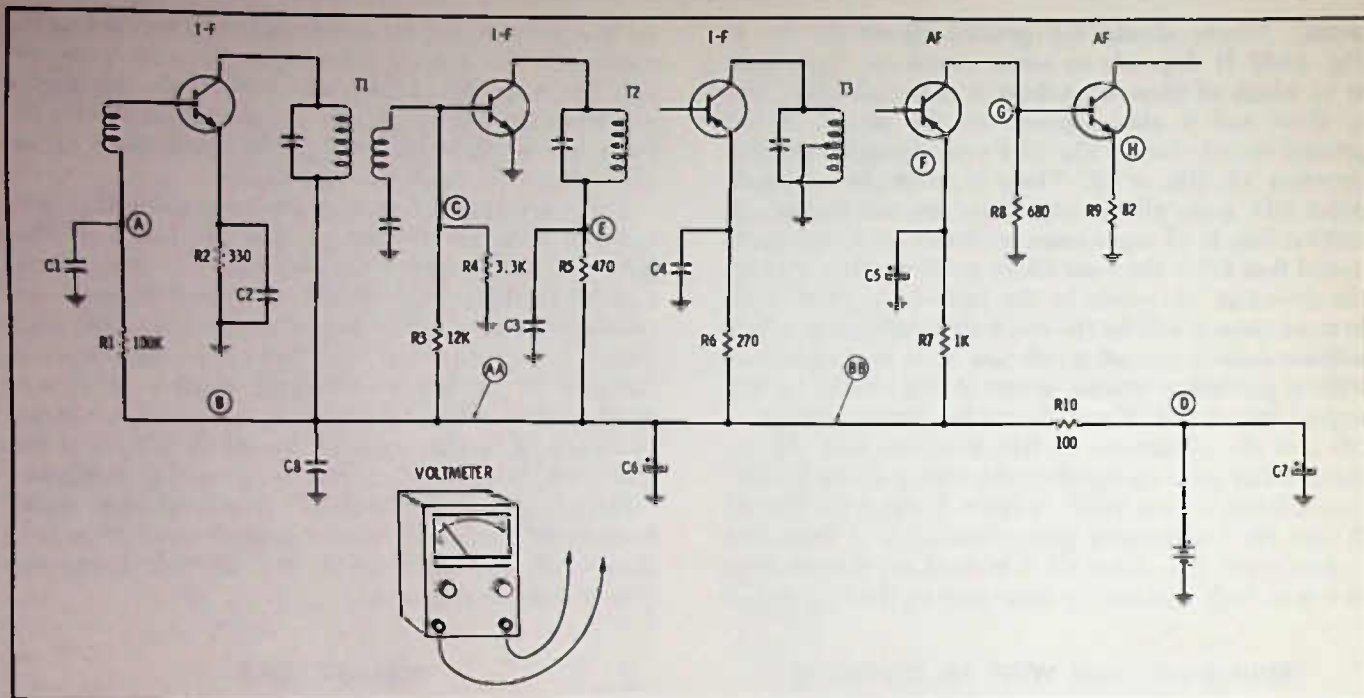

Fig. 14-7. Troubleshooting with a voltmeter.
The voltmeter is probably the best method of checking for troubles, or at least for localizing troubles to a narrow area. The radio is turned on, and voltages are read at test points. These may be test points such as the transistor terminals, or they may be on the supply line. In Fig. 14-7 is the skeleton layout of the i-f and af stages in a radio. Suppose we had the same trouble as discussed earlier, with a short on the B line. Reading the voltage at D would likely give us full battery voltage if new batteries were in use. However, with partially run down batteries, the internal resistance of the batteries would cause a significant voltage drop because of high current through the 100-ohm resistor and the B-line short. (If the batteries are fairly well run down, even the normal current pulled by the radio will cause the battery voltage to drop; and, in fact, this is a good way to check for weak batteries. If the voltage drop is about 10% or more, you should replace the batteries.)
You can even isolate a circuit by voltage readings or by ohmmeter readings that might seem almost impossible, but if there is the least resistance involved and considerable current is flowing through it, there will be a voltage drop across it. For example, in Fig. 14-7, suppose the voltage on the (B) line is normal or nearly so, but the voltage at point (E) is only a fraction of a volt. Is C3 the trouble, or could it be that the transistor is shorted or may be drawing too much current because of excessive bias? The transformer wind-